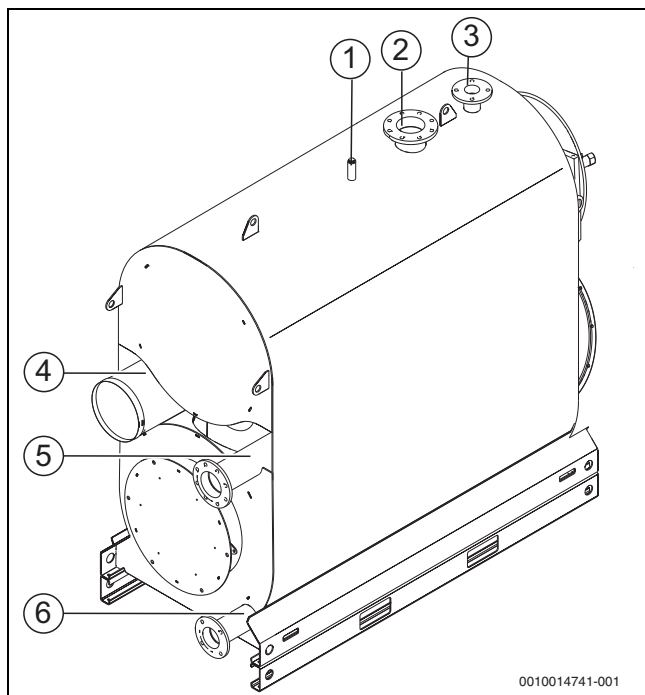

Fig. 12 Boiler connections
- ▶ Connect the heating flow to the flow connection [VK] of the boiler (→ Figure 12, [2], page 19).
- ▶ Connect the pressure relief valve to the flow safety pipe connection [VSL] (→ Fig. 12, page 19).